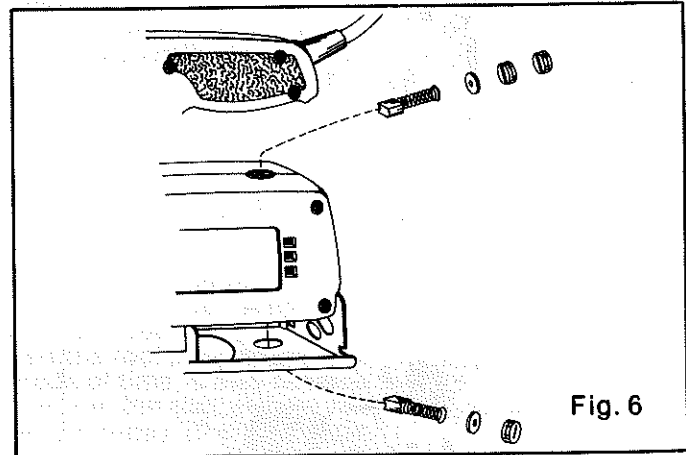

Fig. 6
1. Remove brush caps with screwdriver. See Figure 6.
2. Remove fibre washers (B) by inserting a small diameter nail or similar instrument into the hole in the washer and pulling the washer out. The washers are designed to fit tightly in the brush holders to prevent twisting of brush springs when replacing brush caps.